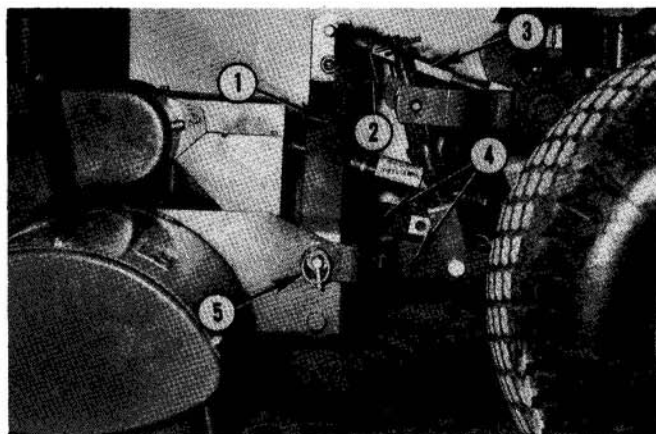

Fig. 5 — Attaching Tiller
8. Attach tractor left and right lift arms to Tiller and secure with linch pins as shown in Fig. 5.
9. With Tiller "A" frame vertical, adjust length of tractor top link and attach to top high point on Tiller "A" frame, Fig. 5.
DETACHING TILLER — FIG. 5